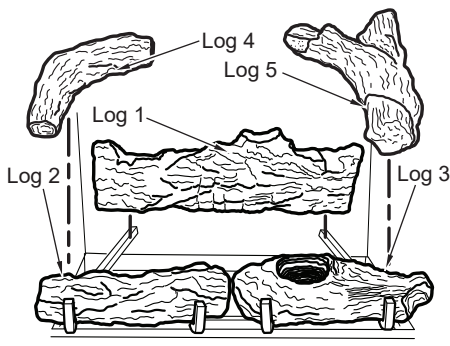

Figure 23
3. Place log #4 into the groves on the left sides of log #1 and #2 (see Figure 23).
4. Place log #5 into the groves on the right sides of logs #1 and #3 (see Figure 23).